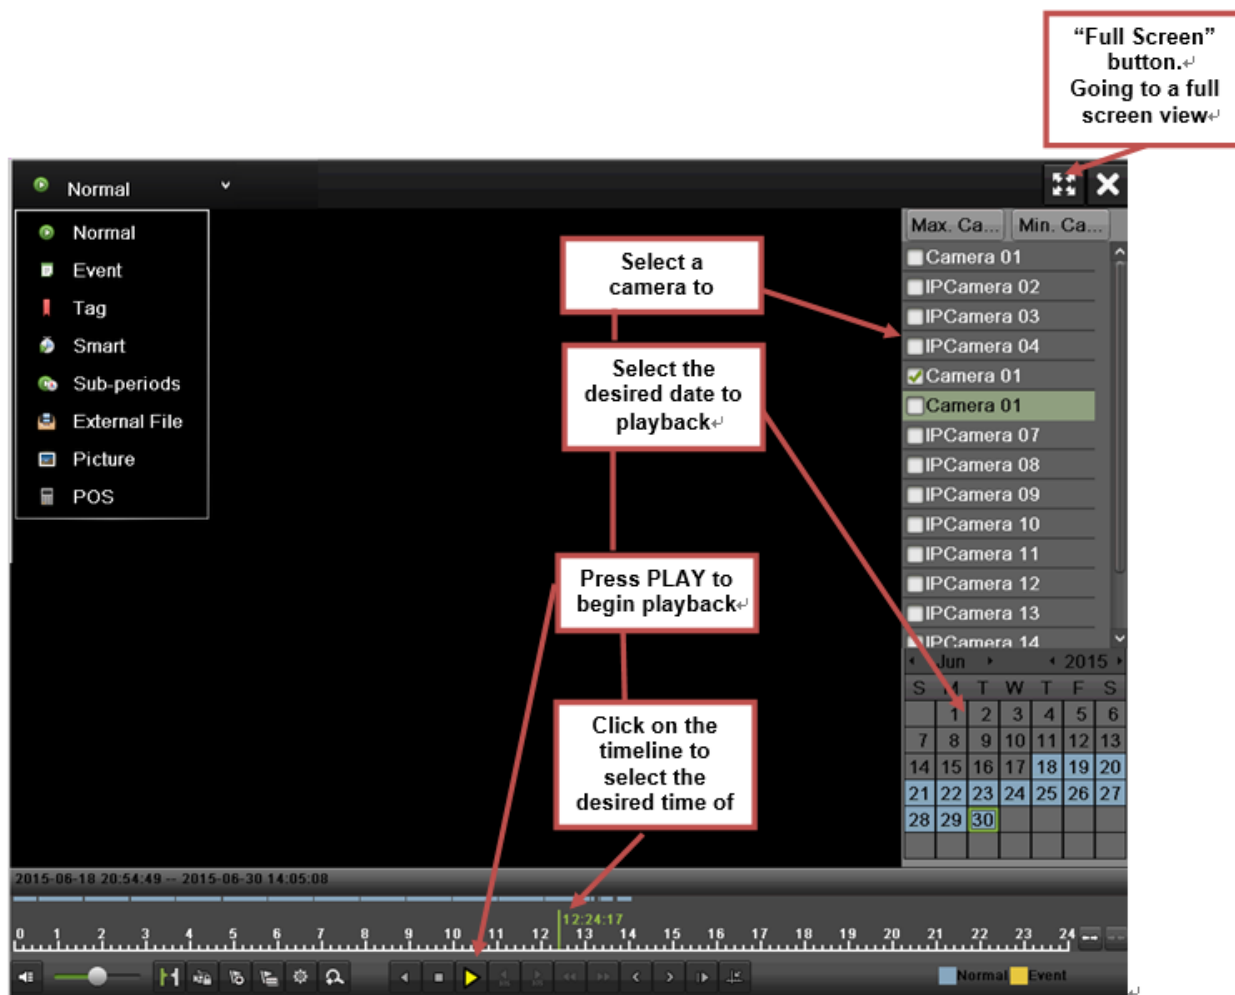

Figure 86 Playback Menu
1. Enter the Playback menu, shown in **Figure 86** by going to Menu > Playback > Record.